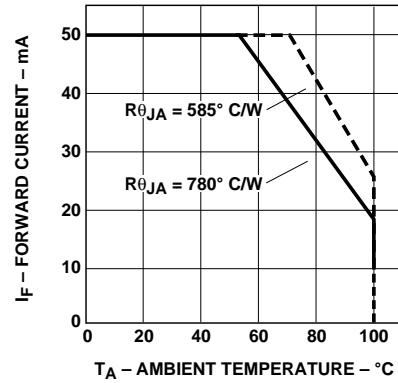

Figure 4. Maximum Forward Current vs. Ambient Temperature. Derating Based on  $T_{JMAX} = 130^\circ C$ .
1. Derate linearly as shown in Figure 4.